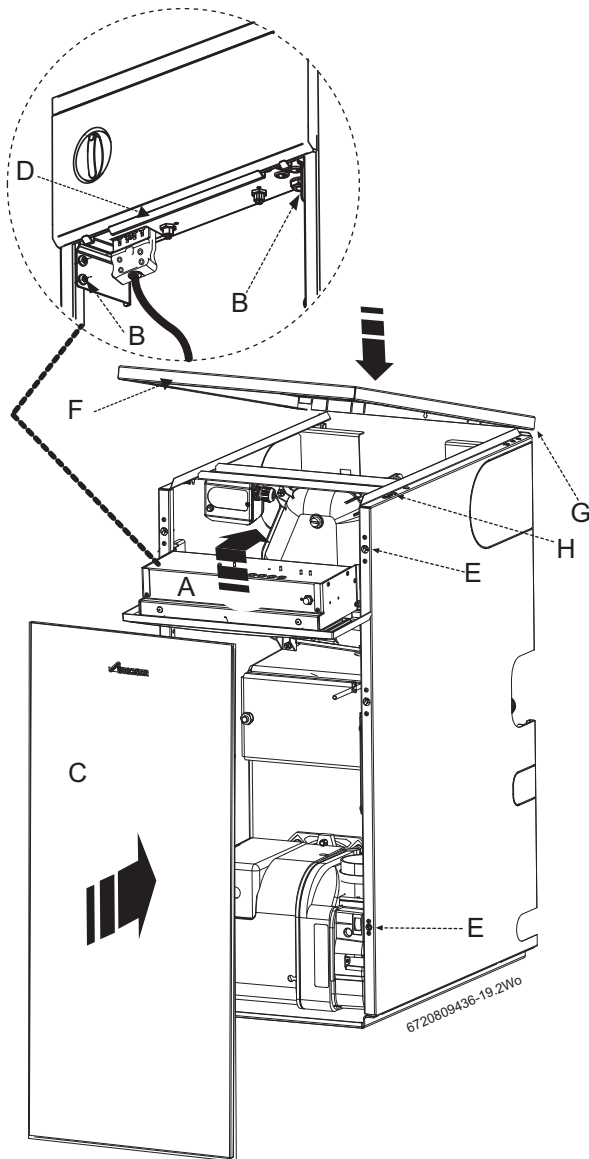

Fig. 74
- ▶ Pivot the control box (A) figure 74 up and into the boiler. Secure with screws (B).